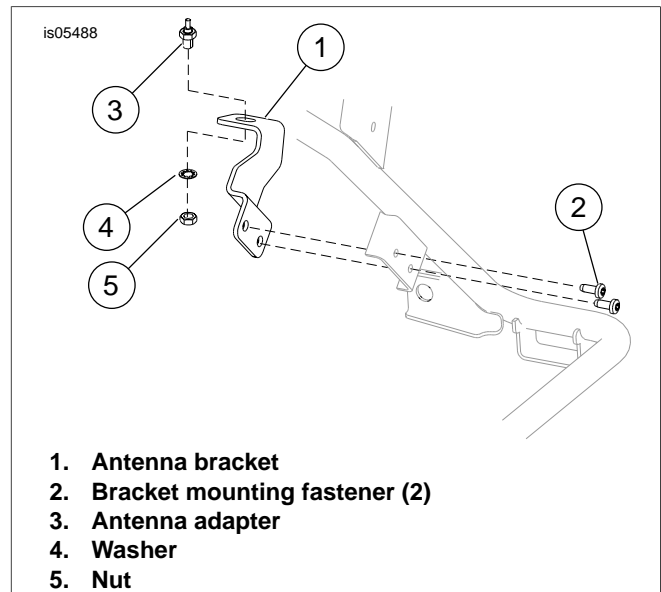
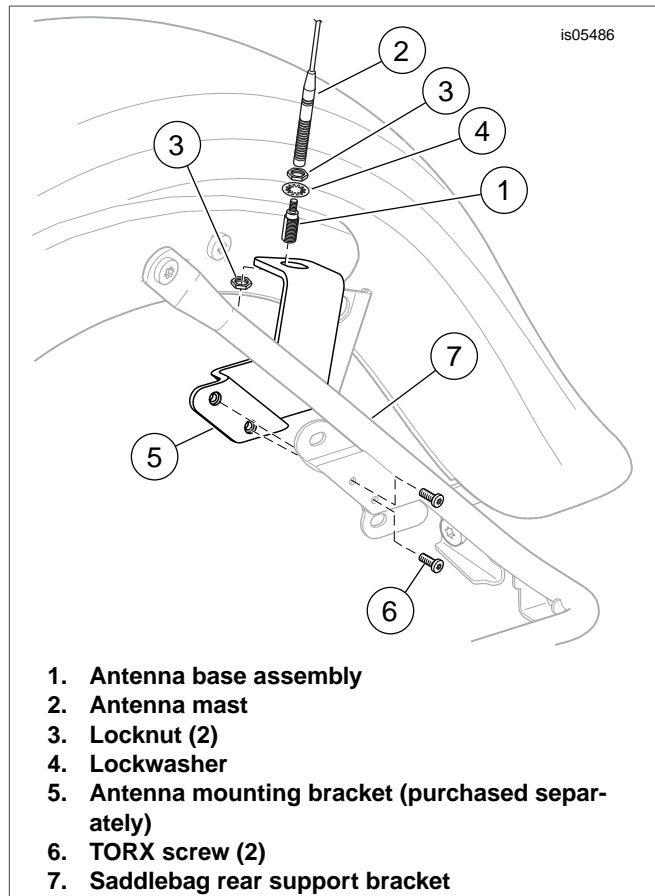
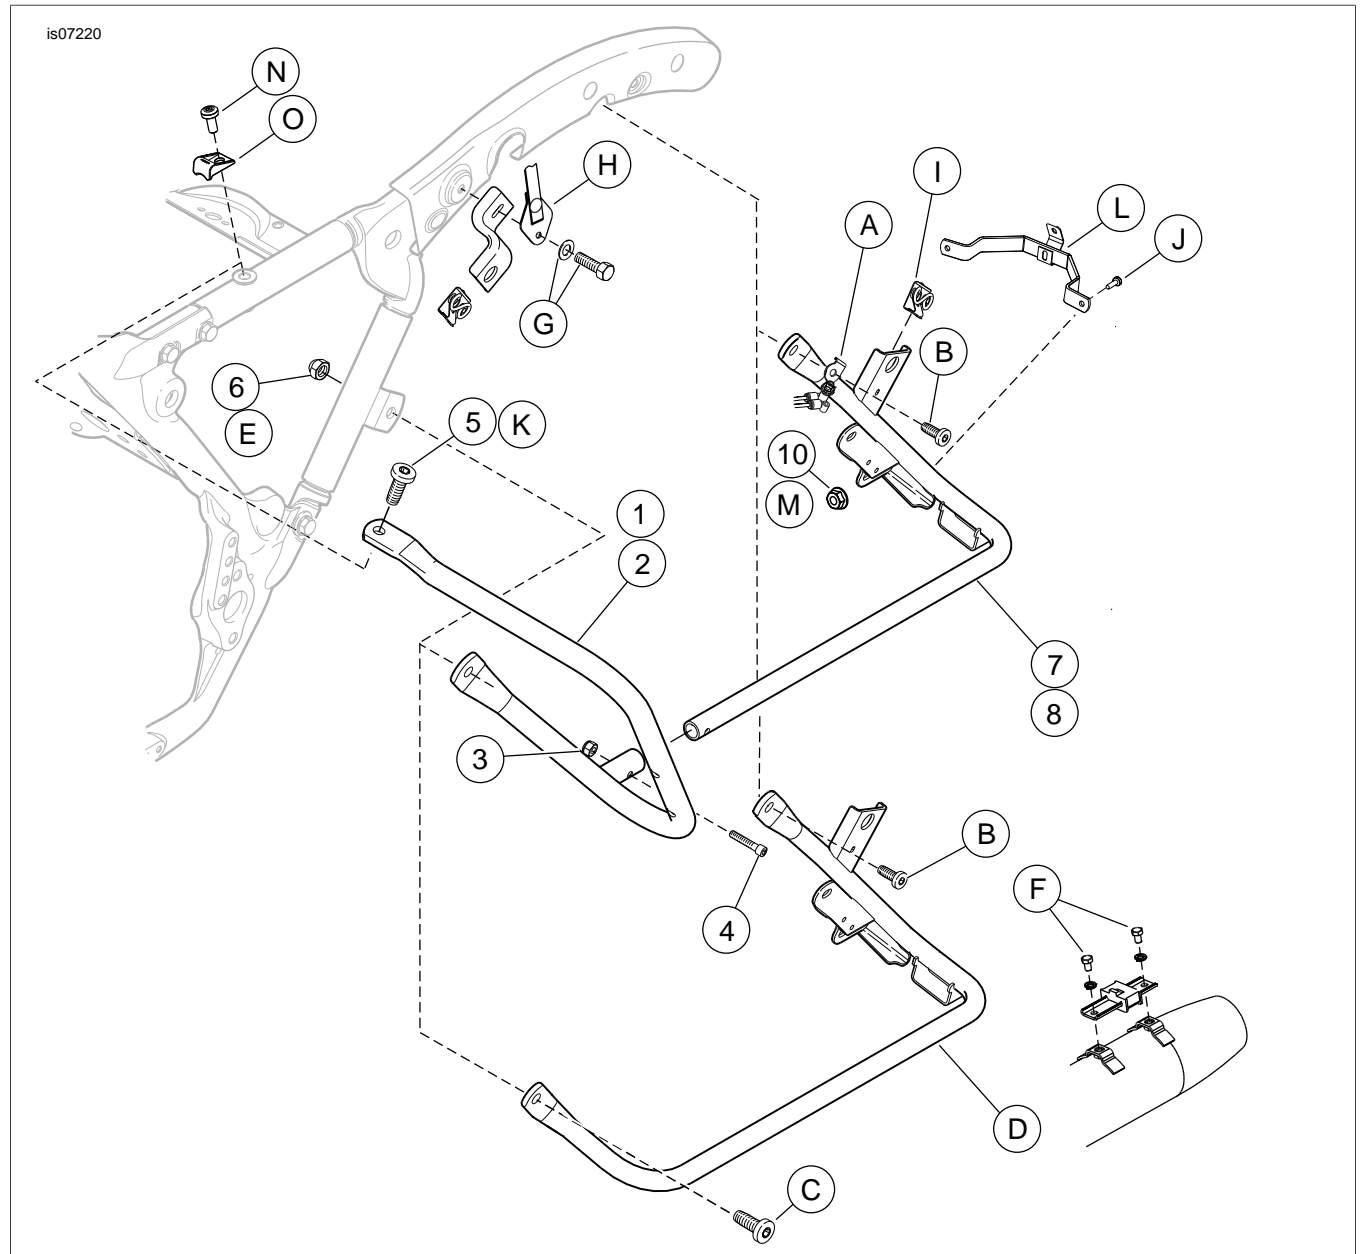

Figure 1. Remove Antenna and Bracket
Figure 2. Antenna Mounting Bracket
Figure 3. Service Parts: Saddlebag Guard Kit (Left Side Shown)
See Figure 3 and Table 1.
2. See Figure 3. Remove grab strap screw and washer (G). Remove grab strap (H). Remove seat following the instructions in the service manual.
3. If equipped, remove seat bumper (O) and screw (N).
6. See Figure 3. Remove the screws (F) securing saddlebag support to muffler supports.
7. Remove bolt (J) and nut (M). Save bolt (J) for installation. Discard nut (M).
8. Remove screws (B, K and C) and nut (E). Save screws (B and C) for installation. Discard nut (E) and screw (K).
9. Remove stud receptacle (I) and save for installation.
10. See Figure 1. Remove antenna bracket (1), mounting fasteners (2), antenna mounting nut (5), washer (4) and antenna adapter (3). Save the antenna and hardware, discard the bracket.
11. Remove support (D) and discard.
1. See Figure 3. Install the rear saddlebag support mounting screw (B) through the air suspension bracket (A) and saddlebag support (7). Install screw finger-tight.
2. Install bolt (J) and nut (10). Tighten finger-tight.
3. Install stud receptacle (I) into saddlebag support (7).
4. See Figure 2. Install antenna bracket with hardware (removed earlier).
5. Install new forward saddlebag guard (1 or 2) onto saddlebag support (7).
6. Install screw (4) and nut (3). Tighten finger-tight.
7. Secure forward saddlebag guard with upper bolt (5) and lower bolt (C) with nut (6). Tighten finger-tight.
8. Tighten the forward guard upper screw (5) to 32-36 ft-lbs (43-49 Nm).
9. Tighten the lower screw (C) and nut (6) to 32-36 ft-lbs (43-49 Nm).
10. Tighten saddlebag support screw (4) and nut (3) to 70-100 **in-lbs** (8-11 Nm).
11. Tighten the rear saddlebag support mounting screw (B) to 15-20 ft-lbs (20-27 Nm).
12. Tighten fender bracket screw (J) and nut (10) to 15-20 ft-lbs (20-27 Nm).
13. Install muffler with screws (F) and remove wooden support. Tighten screws to 96-144 **in-lbs** (10.8-16.3 Nm).